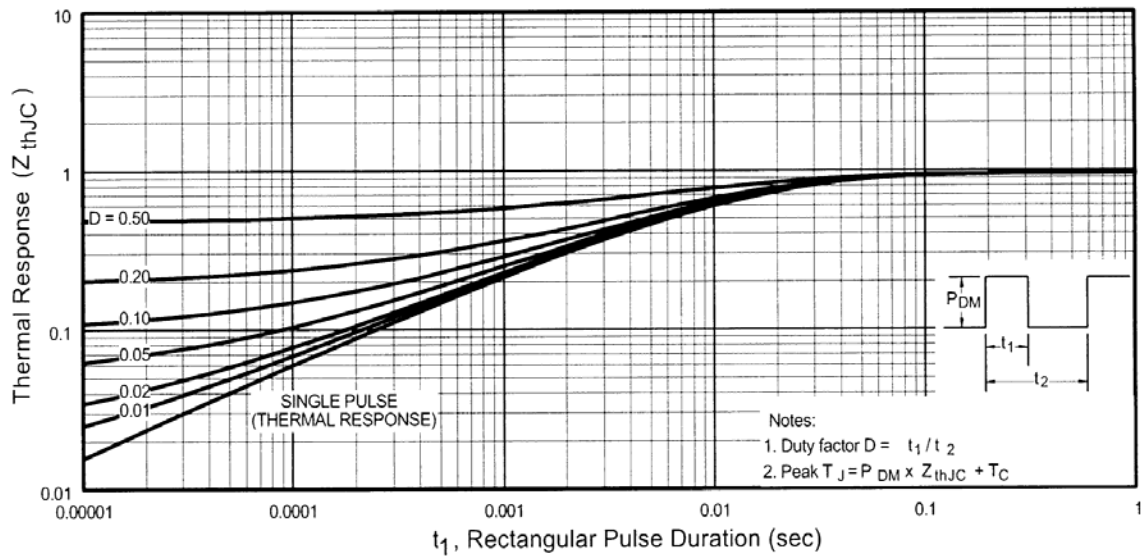

Fig 11. Maximum Effective Transient Thermal Impedance, Junction-to-Case
① Repetitive rating; pulse width limited by max. junction temperature. (See fig. 11)
② Starting $T_J = 25^\circ\text{C}$, $L = 1.7mH$